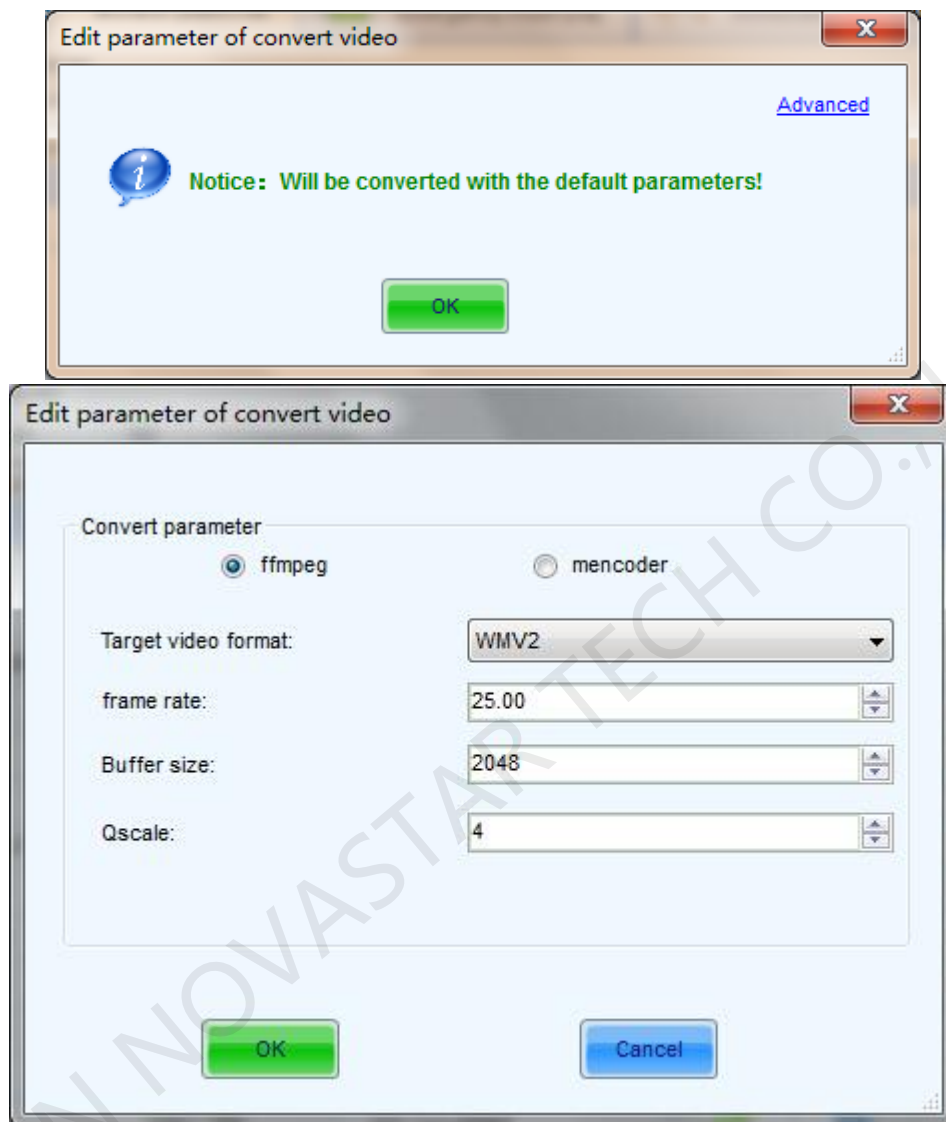

Fig. 10-63 Edit parameter of convert video
- 3) After setting of insert play options, click **Publish** button at the bottom of the page. Edit parameter of convert video window will pop up, as shown in Fig.10-63. Choose the video effect to be converted to, and click **OK**. After conversion is completed, the following window will pop up: